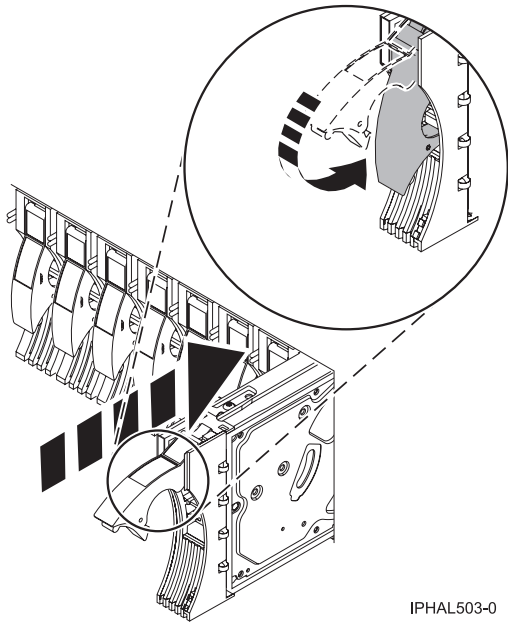

Figure 26. Installing a disk drive in a model
5. Install the disk drive as shown in Figure 26 on page 36.